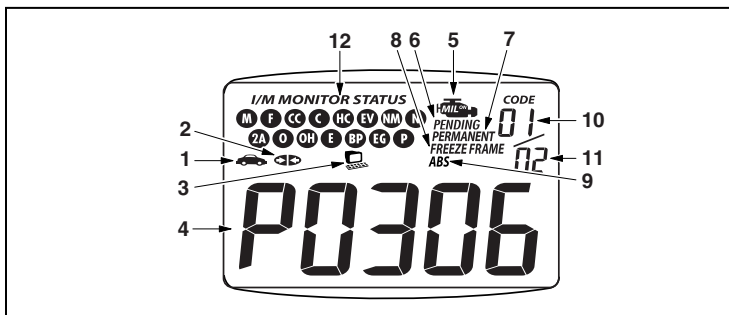

Figure 2. Display Functions
See Figure 2 for the locations of items 1 through 10 below.